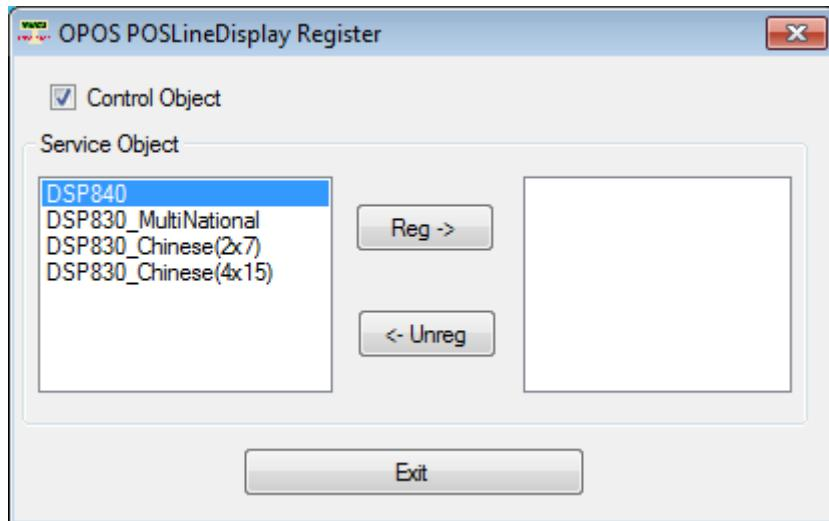
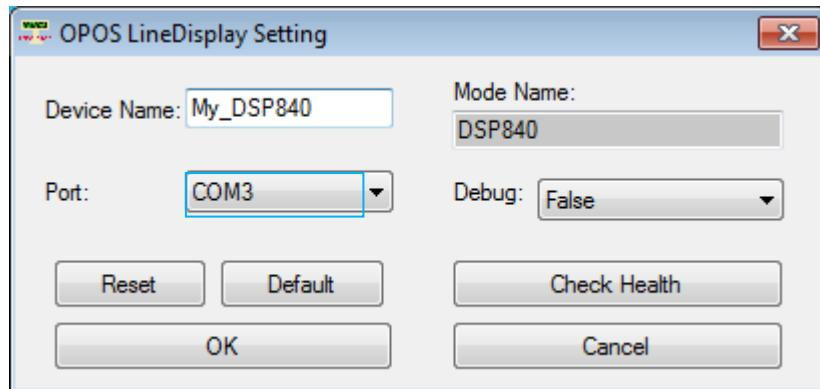

Figure 4-2.
Figure 4-3.
- C. the “Control Object” must be selected. See figure 4-2.
- D. Select a DSP840 from device mode name list (left list). See figure 4-2.
- D. Press the “Reg - >” button. See figure 4-2. Show the OPOS Line Display Setting window. See figure 4-3.
- E. The device name can modify. See figure 4-3.
- F. Select a com port used to connect the device to the computer. See figure 4-3..
See figure 4-3.
- H. If press the “Default” button, the device name and port will return to default value. See figure 4-3..
- I. Press the “Check Health” button, check the device and computer’s connection health status. See figure 4-3..
- J. Press “Cancel” button, cancel the device register. See figure 4-3.
- K. Press “OK” button, the device register is completed. See figure 4-3.
- L. The Debug value is false, unless you have a good reason to change it. See figure 4-3.